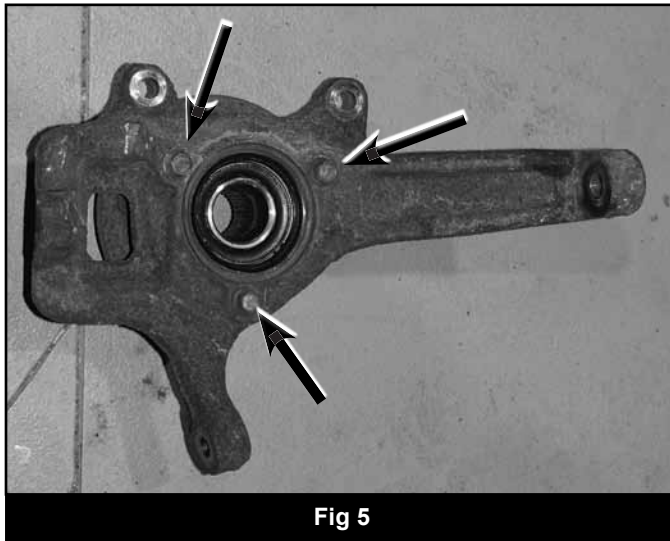

Fig 5
21. Remove the three bolts mounting the hub bearing assembly to the steering knuckle (Fig 5). Retain the mounting bolts. Remove the hub assembly from the knuckle. Note: It may be necessary to press the hub out of the knuckle as a result of excessive corrosion on some vehicles.